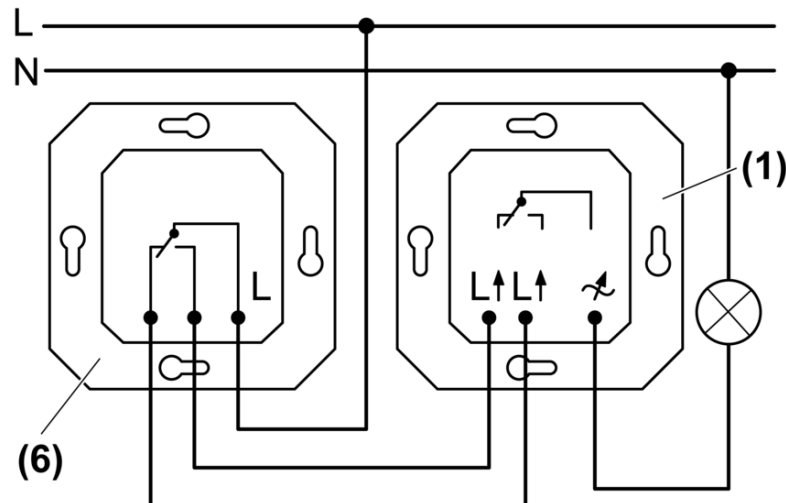

Figure 3: Changeover switch
- (1) Dimmer
(6) Changeover switch
- Connect the dimmer (1) and the changeover switch (6) according to the connection diagram (Figure 3).